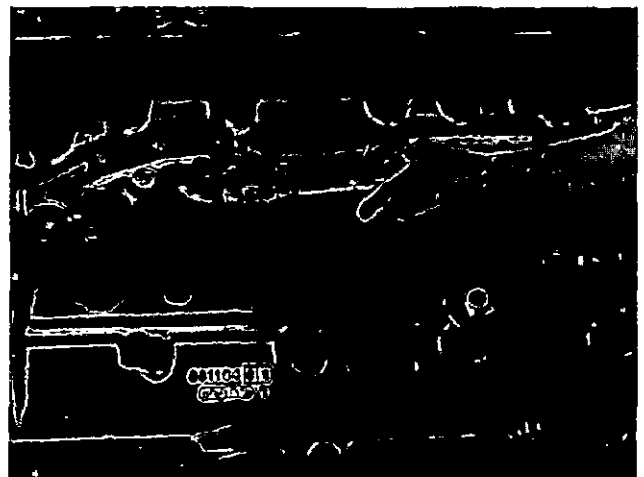

Fig. 0-12 (N100141) Remove The Water Connection And Transfer Tube.
2. Loosen the clamp that holds the transfer tube to the oil cooler. Remove the transfer tube and water connection, Fig. 0-12.